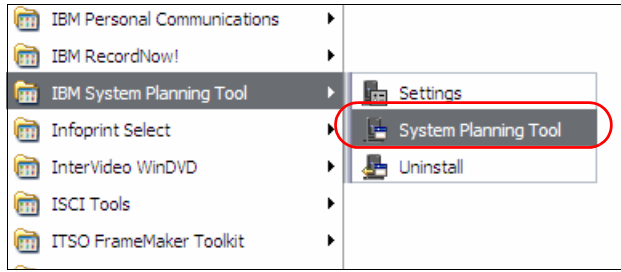

Figure A-29 System Planning Tool Version 2 start command
- ▶ As shown in Figure A-29, look for the command to start in the programs menu. Click **Start** → **All programs** → **IBM System Planning Tool** → **System Planning Tool**.